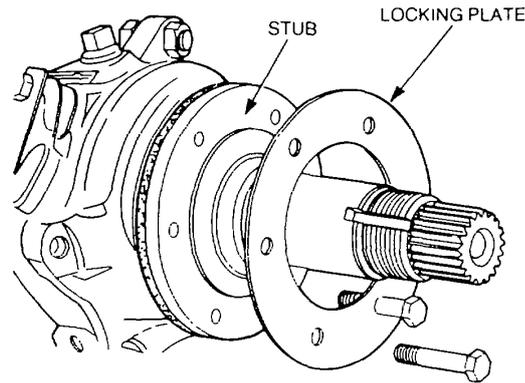

Figure 112 Stub Axle Removal
- d. Remove the six bolts and locking plate retaining the hub stub axle to the swivel housing (Figure 112).